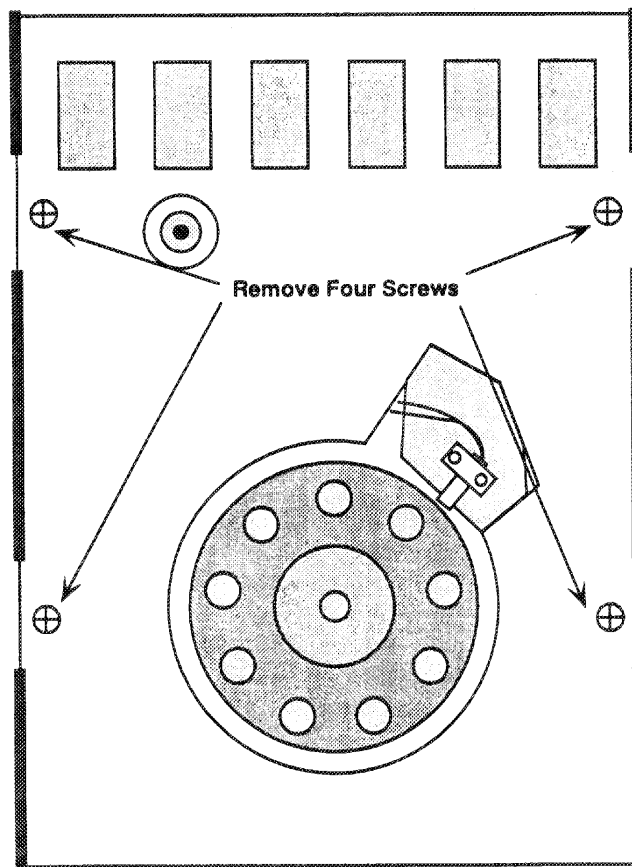

Figure 25 Four screws hold the sheet metal support bracket.
7. Use a #2 Phillips-head screwdriver to remove four screws from the sheet metal support bracket as shown in Figure 25. Lift the bracket away and put it aside.